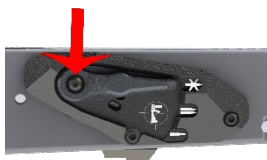

fig. 14
- i) With the 5/64 Allen Wrench (L), use the Selector Lever Screw (K) to attach the Selector Lever (H) and tighten. (See fig. 14)